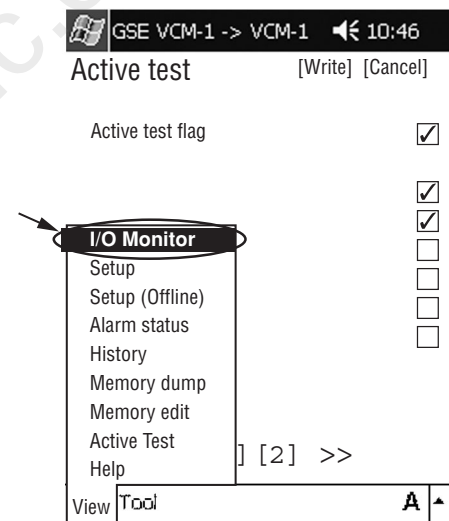
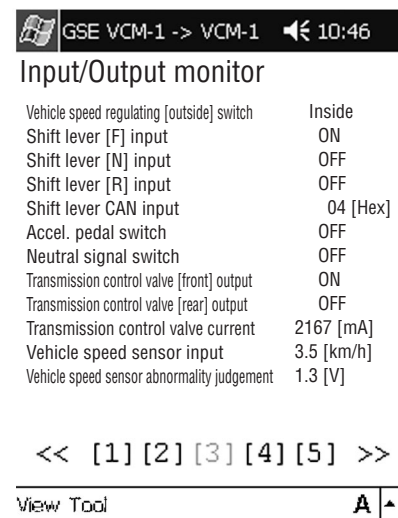

Fig. 2-12 View Menu (I/O Monitor Selection Screen)
Fig. 2-13 I/O Monitor [2]
- (7) Press “I/O Monitor” on the view menu which displayed by touching “View” bar of service tool screen (Fig. 2-12) and select Page [2] of I/O Monitor (Fig. 2-13).